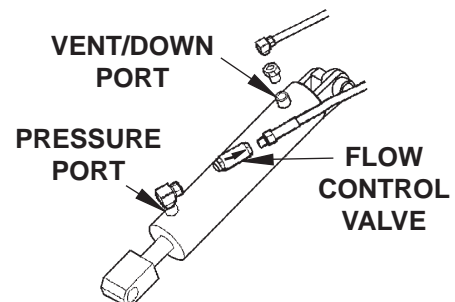

FIG. 48-3
2. Check the hydraulic cylinder. With the platform on the ground, remove the breather plug or vent line from the vent/down port of the cylinder (FIG. 48-3). Raise the platform even with the bed. Allow pump motor to run two seconds more while you watch for hydraulic fluid at the vent/down port. A few drops of hydraulic fluid escaping the vent/down port is normal; however, if it streams from the vent/down port, piston seals are worn. Replace seals.
3. Check and clean flow control valve in high pressure hydraulic line attached to cylinder. When installing flow control valve, make sure arrow on valve is oriented as shown in FIG. 48-3.